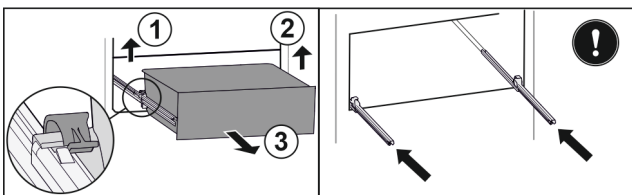

Fig. 109
- ▶ Lift left clamp and simultaneously pull drawer forwards on the left. Fig. 109 (1)
- ▶ Lift right clamp and simultaneously pull drawer forwards on the right. Fig. 109 (2)
- ▶ Remove drawer to the front. Fig. 109 (3)